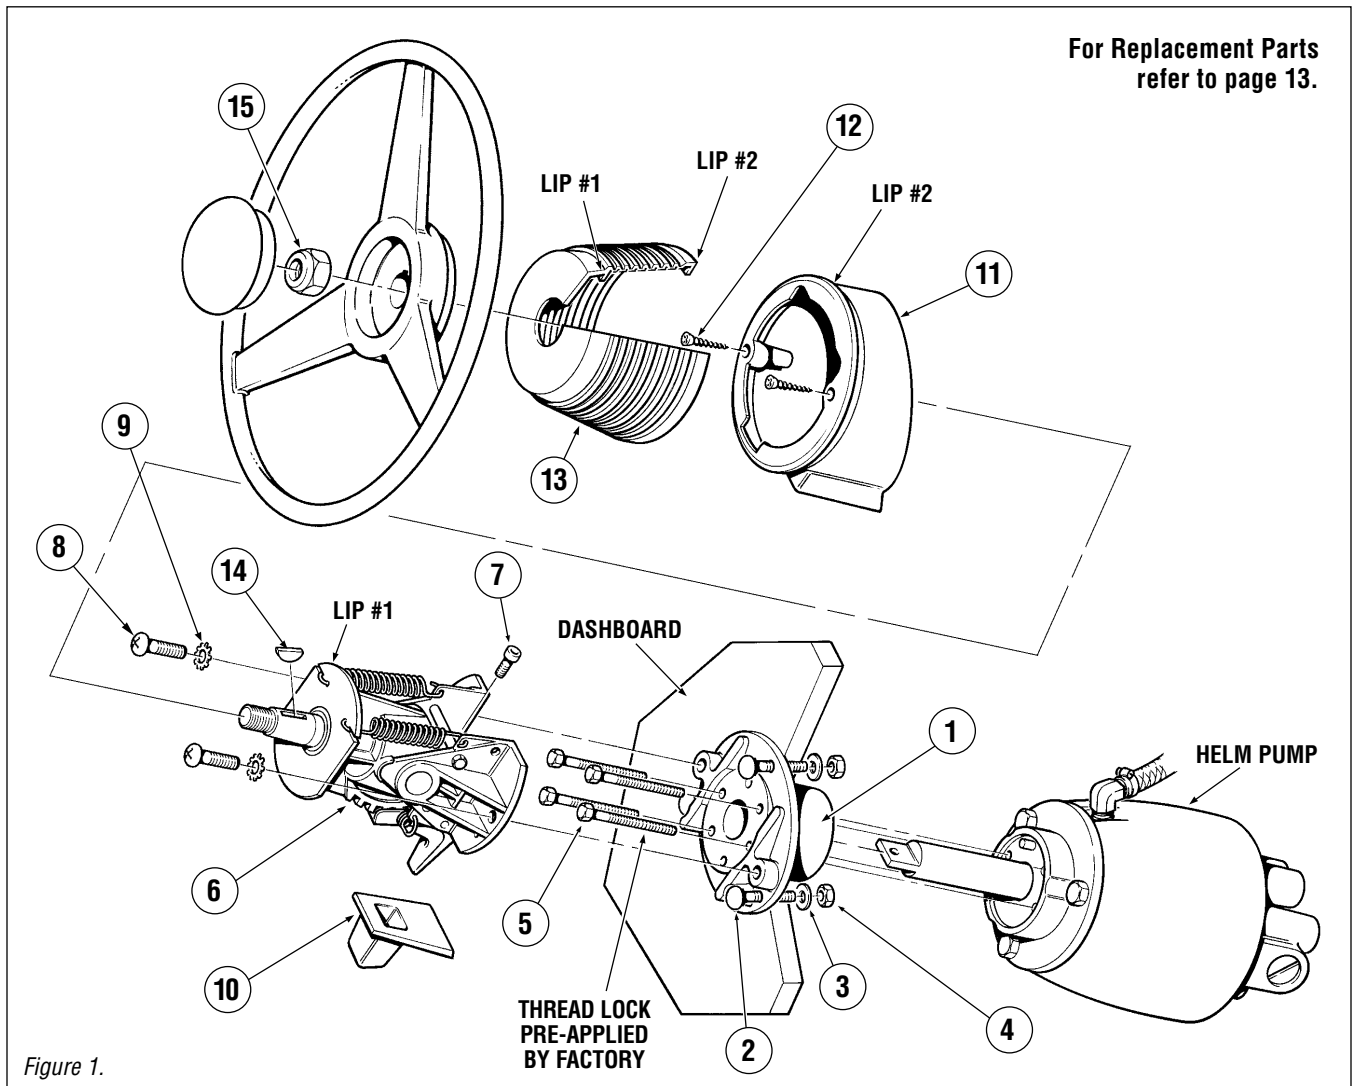

Figure 1.
**STEP 11.** Install boot cover (Item 13) over lip 1 of the tilt mechanism and around lip 2 of the lower bezel (shown in Figure 1).